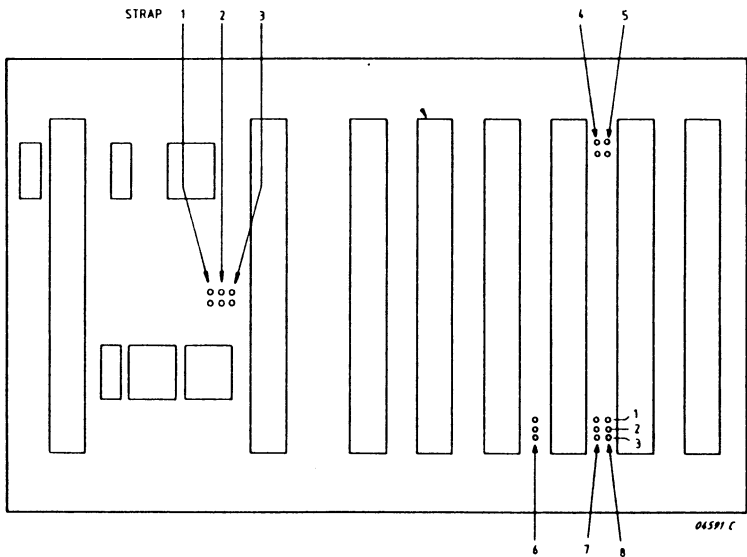

Figure 2.3 BACKPANEL STRAP LOCATIONS
2.1.4.1 BACKPANEL STRAP SETTING (SEE FIG. 2.3)